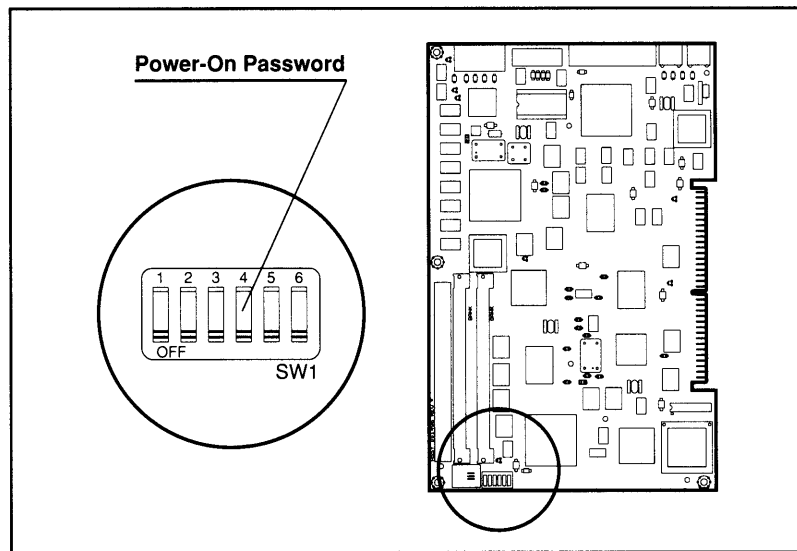

Figure 2-1. Switch for the Power-On Password on the COMPAQ DESKPRO 386 $\mu$  System Board
3. Locate the switch on the system board (see the configuration label (Figures 2-1, and 2-2).